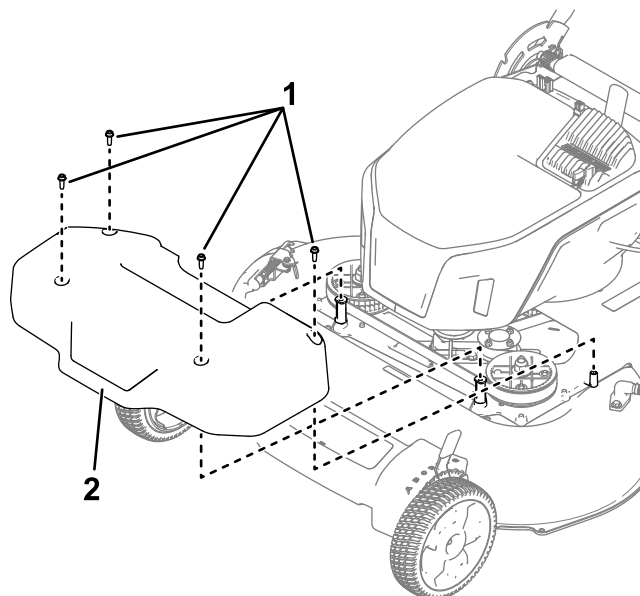

Figure 24
1. Remove the blade-drive system cover (Figure 24).